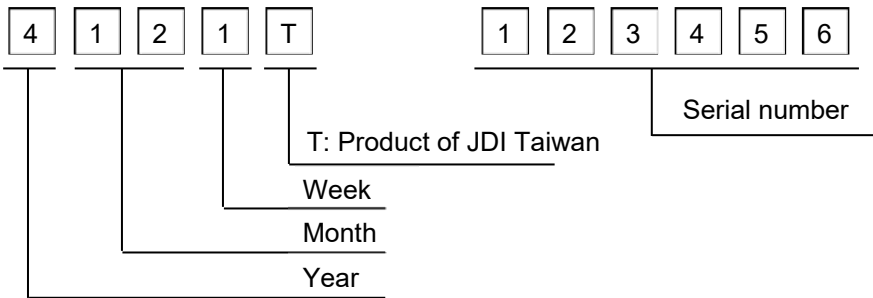

Fig. 10.1
1) The lot mark is showing in Fig.10.1. First 4 digits are used to represent production lot, T represented product of JDI Taiwan, and the last 6 digits are the serial number.